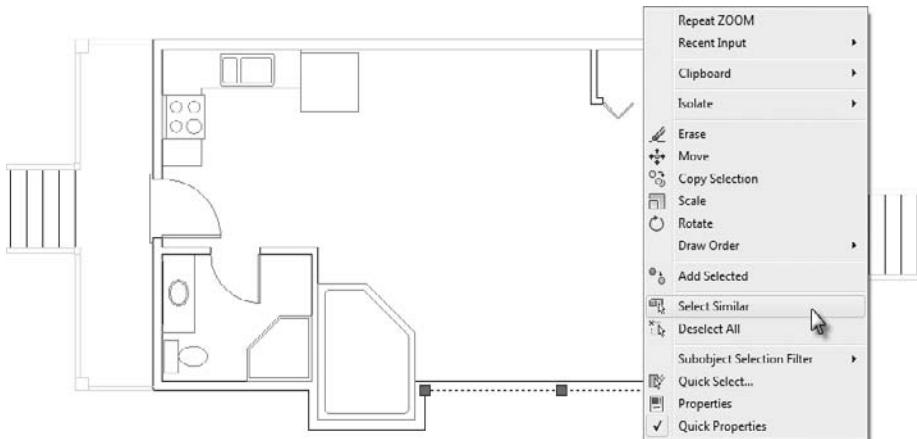

FIGURE 6.28 Choosing the Select Similar right-click menu option after selecting a single wall line
2. Select any line currently drawn on layer 0 which represents a wall within your cabin (Figure 6.28).
3. Be careful not to deselect the line on layer 0, right-click and select the Select Similar option, as shown in Figure 6.28.